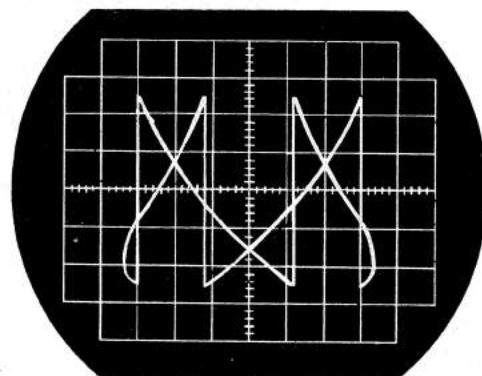

Fig. 10 Lissajous waveform
*Lissajous figure adopts the general form shown in Figure 10 due to the fact that the MPX SG 19kHz pilot signal output is a sine wave, and the No. 23 terminal carries a 76kHz saw-tooth wave as determined by the adjustment of  $VR_1$ .*